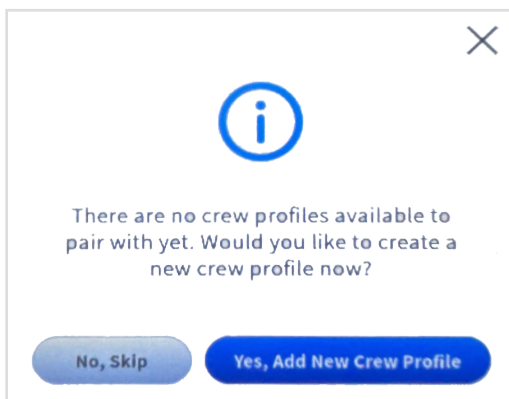
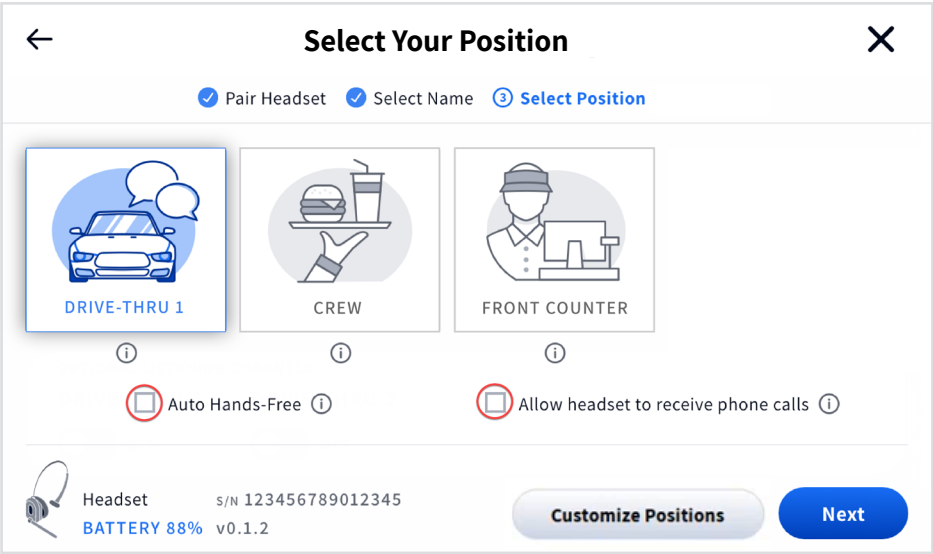

Fig. 1.21
Fig. 1.23
- *** The group you are calling must be an active position in the restaurant and have headset wearers enrolled in that group (see example in Fig. 1.23, which has three active positions listed: Drive-Th-
Once your headset is successfully paired, one of two dialog boxes appears. If there are no crew profiles set up in the system, then Fig. 1.21 will appear. Tap the **No, Skip** button to continue as a guest (this will open the “Select Your Position & Options dialog,” see Fig. 1.23). Or, tap the **Yes, Add New Crew Profile** button (this will open the Create Crew Profile dialog, see “Chapter 2 - Crew” on page 16 and Fig. 2.2).
When the **Select Your Position** dialog appears (Fig. 1.23), you are prompted to select a position. Tap on one of the available tiles to select it (DRIVE-THRU 1 is selected in Fig. 1.23). If you are selecting the DRIVE-THRU position, you also have the option of **Auto Hands-Free** mode (the first checkbox located below the position tiles). This allows you to connect with a new customer without having to connect manually by tapping the headset keypad.
The other checkbox option is **Allow headset to receive phone calls** (see Fig. 1.23). Stores that have a landline telephone may wish to have it connected to the NEXEO system so that a NEXEO headset can be used to receive incoming phone calls. When this box is checked, the  (Action) key on a designated headset keypad can be used to answer incoming calls. Only one headset can be designated to receive phone calls, and your system must have a TI7000 installed. The TI7000 is a Telephone Interface module used to connect the store telephone to the base station. The TI7000 must also be enabled on the base station. See **Telephone Interface** under “Settings” on page 27.